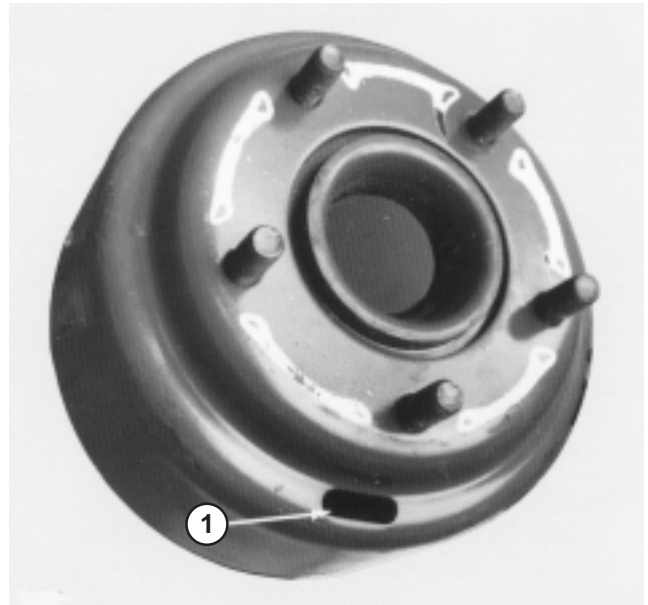

Figure 47
5. Remove wheel nuts and slide wheel and tire assembly off studs. Rotate brake drum until adjusting slot is at bottom and centered over star nut that adjusts brake shoes (Fig. 47).